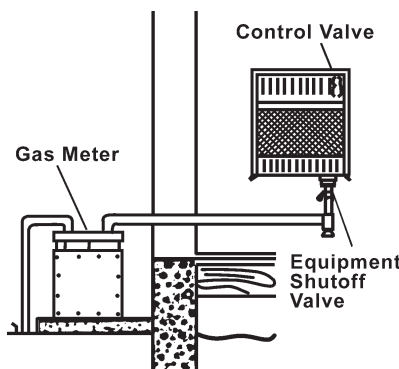

Figure 14 -Checking Gas Joints
3. Check all joints from gas meter to equipment shutoff valve (see Figure 14). Apply mixture of liquid soap and water to gas joints. Bubbles forming show a leak.
4. Check all joints from equipment shutoff valve to control valve (see Figure 14). Apply mixture of liquid soap and water to gas joints. Bubbles forming show a leak.